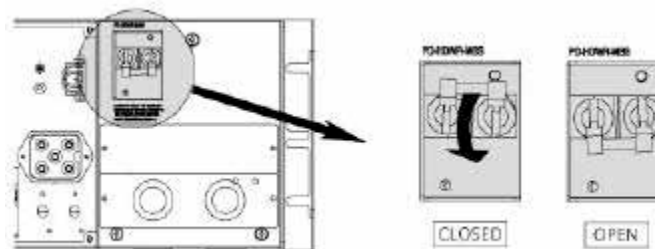
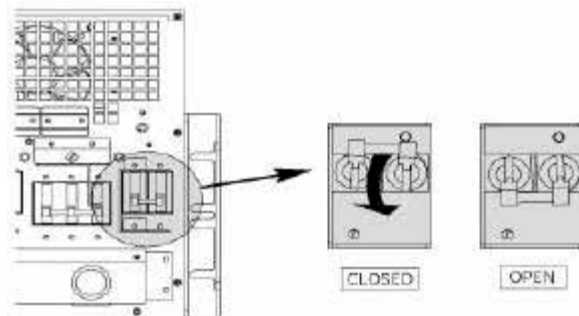

FIG 53 – 6KVA INPUT BREAKER
FIG 54 – 10KVA INPUT BREAKER
5. Turn the INPUT CIRCUIT BREAKER to OFF position (FIG 53 or FIG 54).
5. Switch the INPUT CIRCUIT BREAKER placed on the rear side of the UPS to “ON” position in sequence (FIG 53). The GREEN “UTILITY INPUT” LED will be illuminated.
8. Close the OUTPUT CIRCUIT BREAKER on the rear side of the UPS (FIG 54).